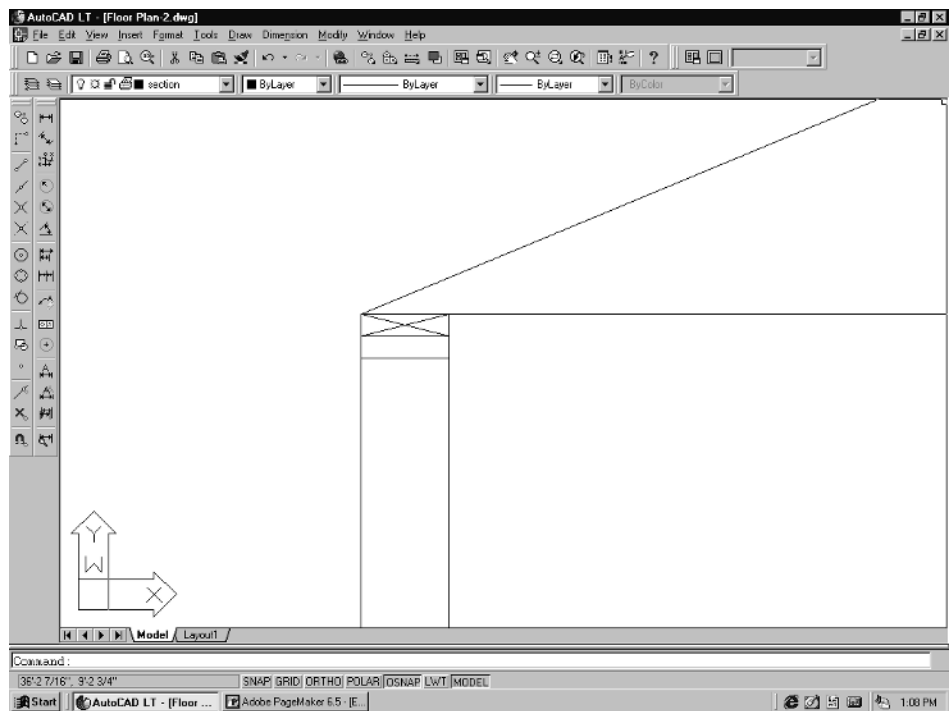

Figure 3-44
8. Pick the **Line** command from the Draw pull-down menu, or type **L** and **Enter**. Draw an X in the top plate, as in Figure 3-44. Your cursor should automatically "grab" the endpoints of each line as you drag over them.